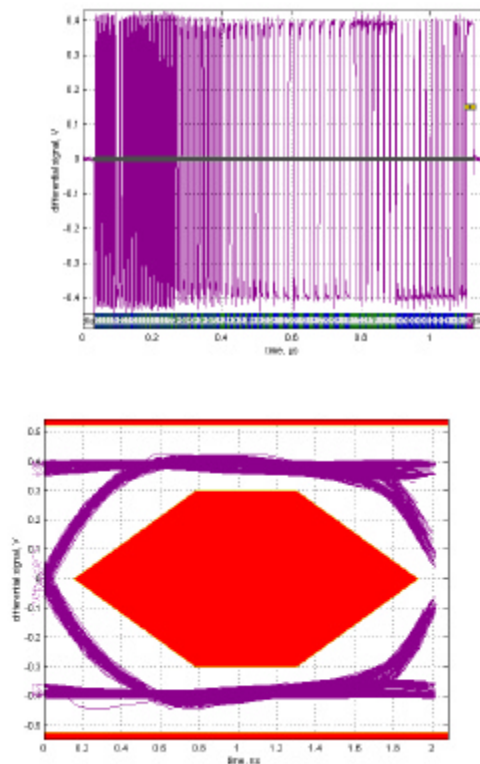

Figure 8. Hi-speed Signal Quality HTML Report
- c. The results displayed in the Internet Explorer are also recorded to an HTML report located in the directory specified in the "Data Path" (e.g. c:\scope\data) (Figure 8)